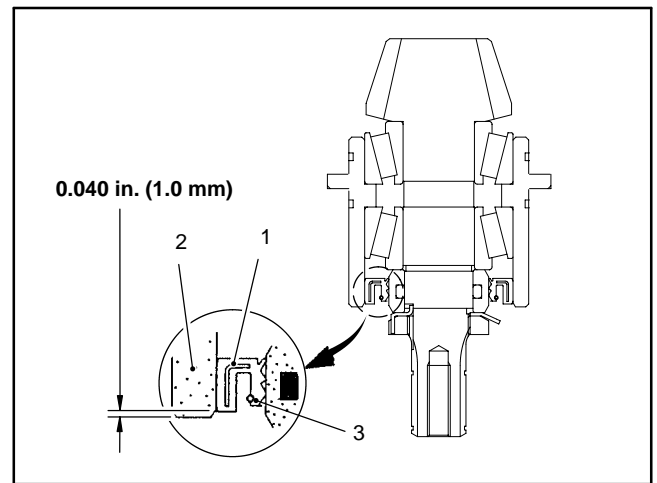

Figure 31
3. Coat a new oil seal with grease and install as shown (Fig. 31). The seal should be installed with the garter spring towards the hydraulic motor.